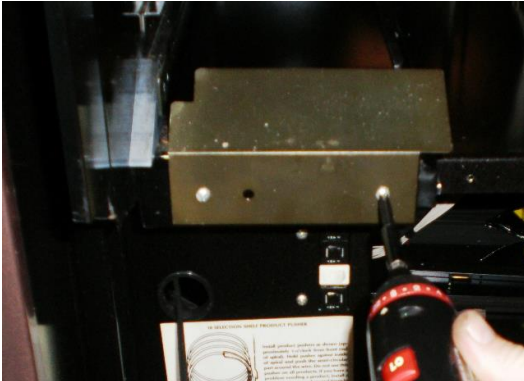

Figure 4A
10. Remove the block off plate, if present, on the left side of the machine; this may be discarded as it is not needed to complete the installation (Figure 4A).